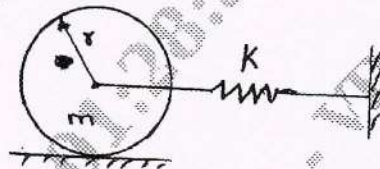

Fig Q8(b)
- b. Find the natural frequency of the system shown in Fig Q8(b) by using Newton's method. Where m and r are the mass and radius of the disc.